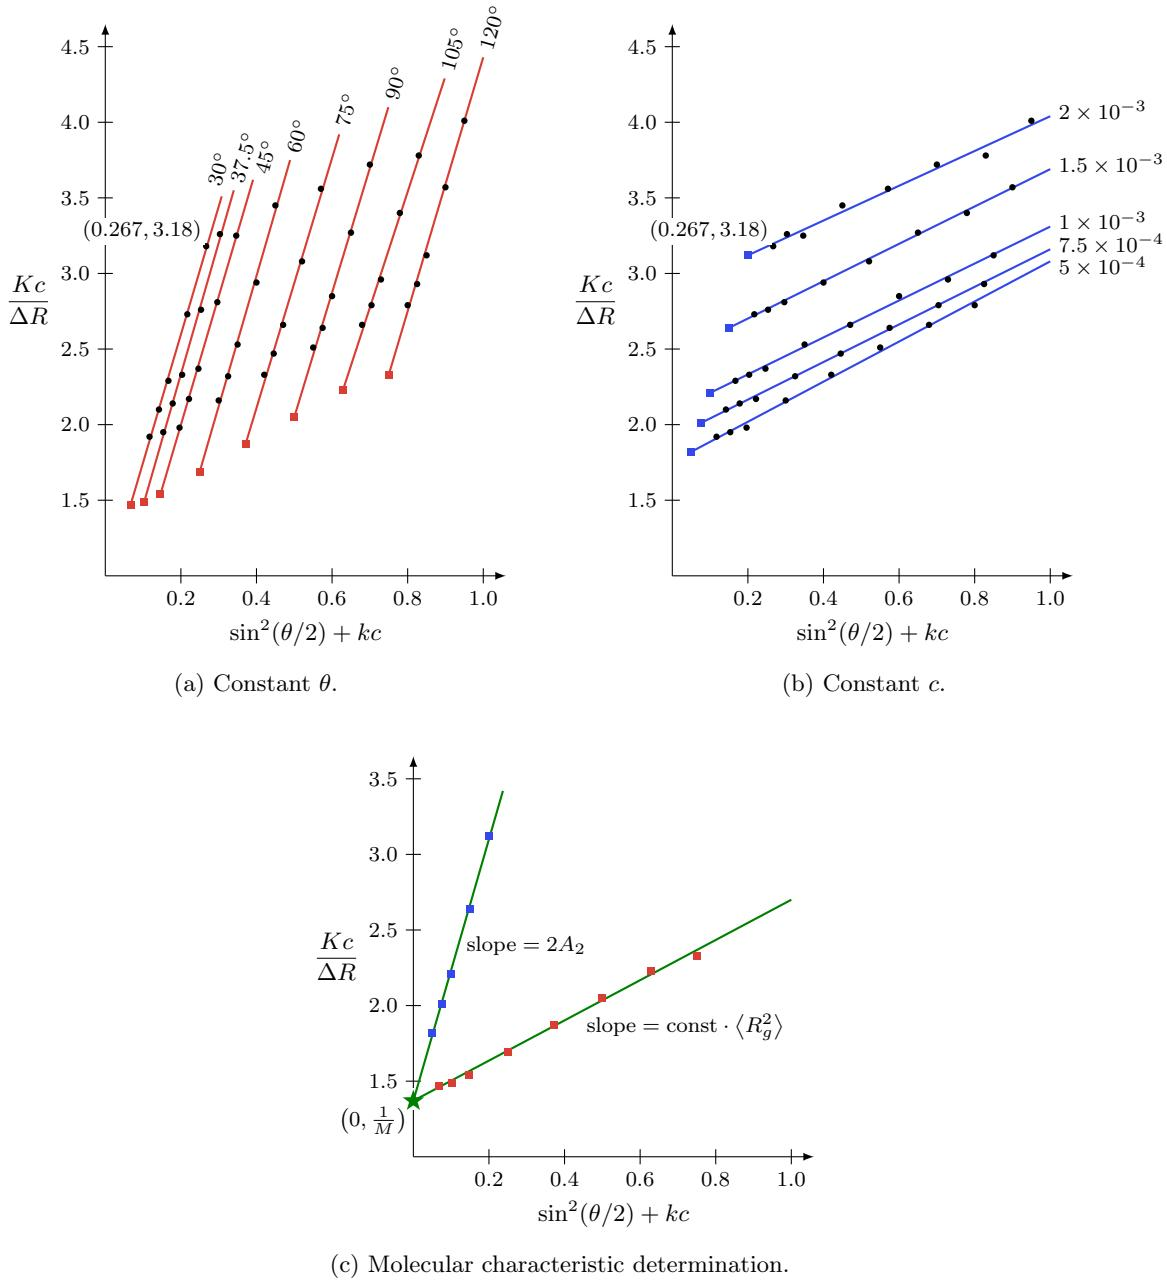

Figure 3.24: Example Zimm plots.
- The circles in the plots of Figure 3.24 correspond to actual data points in Table 3.2.